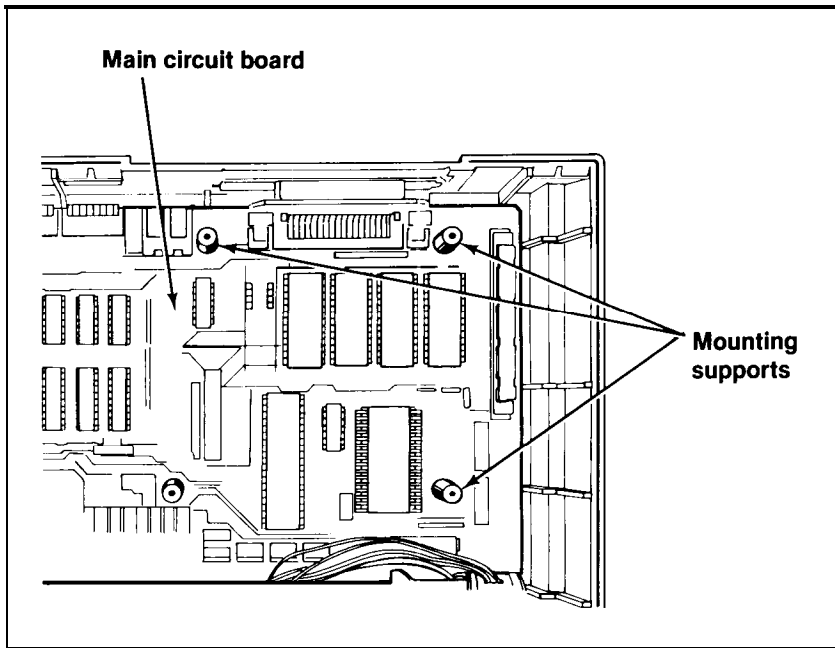

Figure G-3. Main circuit board
3. Locate the supports shown in Figure G-3 on which the interface board will rest, and the screw at the rear of the circuit board labelled FG. The screw marked FG is the connection for the frame ground wire. Remove the frame ground screw and the screw in the support next to the parallel connector.